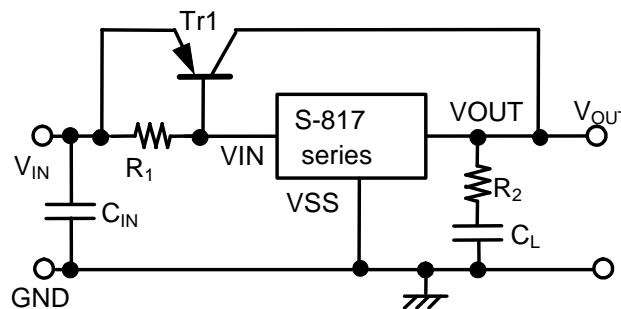

Figure 15
As shown in **Figure 15**, the output current can be boosted by externally attaching a PNP transistor. The base current of the PNP transistor is controlled so that output voltage (V_{OUT}) goes the voltage specified in the S-817 Series when base-emitter voltage (V_{BE}) necessary to turn on the PNP transistor is obtained between input voltage (V_{IN}) and S-817 Series power source pin (V_{IN}).
- To improve transient response characteristics of the output current boosting circuit shown in **Figure 15**, check that no problem occurs due to output fluctuation at powering on or due to power or load fluctuation under normal operating conditions.
The following graphs show the examples of input-output voltage characteristics ($T_a=25^\circ\text{C}$, typ.) in the output current boosting circuit as seen in **Figure 15**: